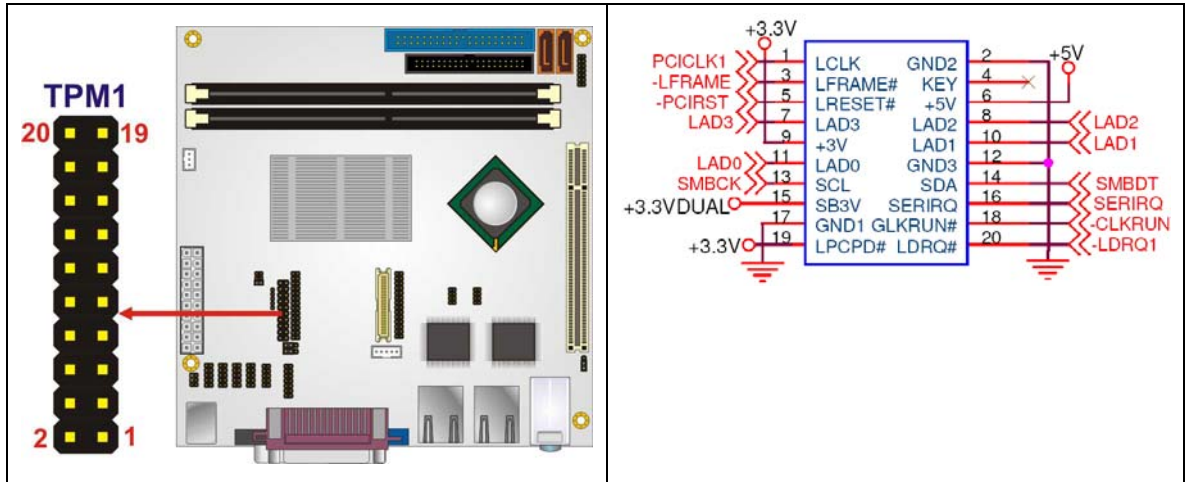

Figure 4-14: TPM Connector Pinout Locations
- CN Location:** See Figure 4-14